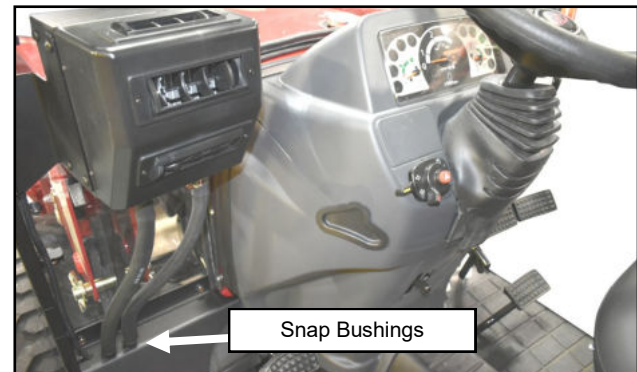

Fig. 20.1 (Snap Bushings and Heater Hose)
20.1 From inside the cab, install both 3/4" snap bushings down into the large holes in the left floorboard. Feed both ends of the 5/8" diameter hose up through the bushings to the inside of the cab, connect them to the nipples on the heater, and secure them with 1" hose clamps. See Figure 20.1.